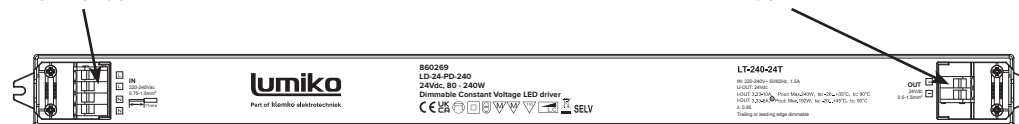

FIG. 2 PARALLEL CONNECTION
- Before installation, check that the requested voltage (V) and power (W) of the LED spotlight or LED strip match those of the driver. Overloading or excessive voltage can cause irreversible damage to the LED or driver.
- The lighting is normally connected in parallel to the output (see fig. 2).